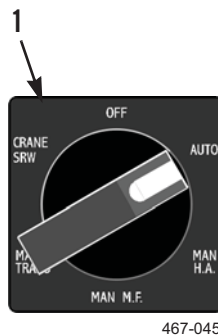

Figure 16. MODE Switch at AUTO.
1. Set MODE switch (Figure 16, Item 1) to AUTO.